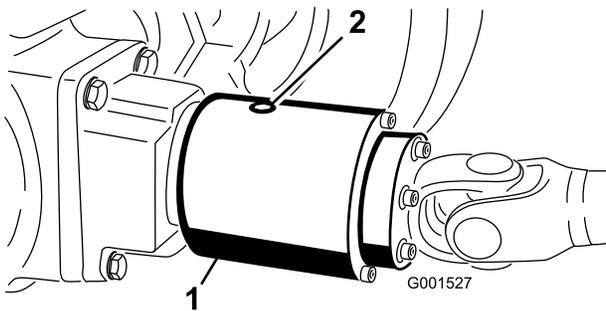

Figure 62
2. Rotate the clutch (Figure 62) so that the check plug is positioned at 4 o'clock.